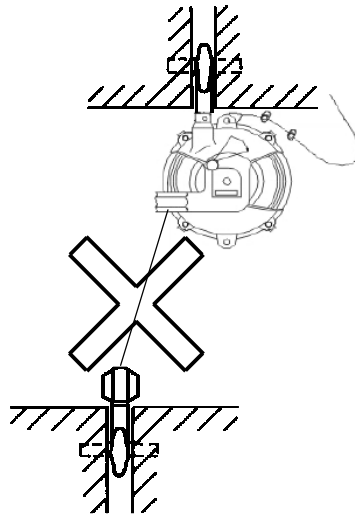

Fig. 2
- Side pull, i.e. lateral load on either housing or bottom block is not permitted (Fig. 2).